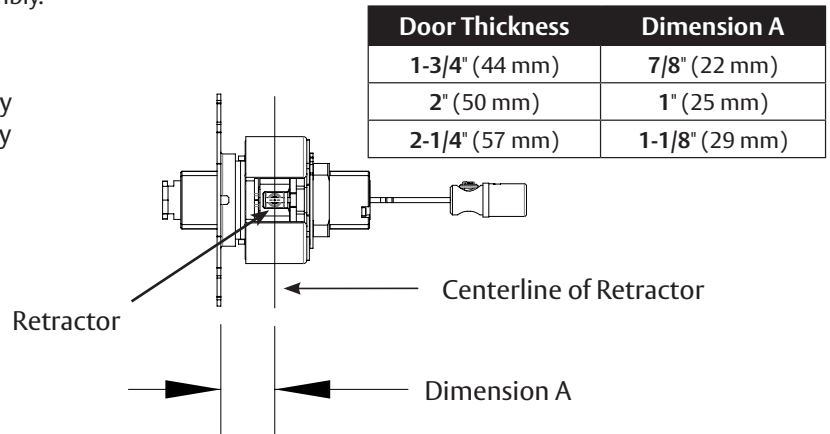

Figure 6
2. Rotate outside rose liner to adjust lock to fit door thickness, so distance (Dimension A) from inside surface of liner to centerline of retractor is half the thickness of the door. (See chart and Figure 6.)